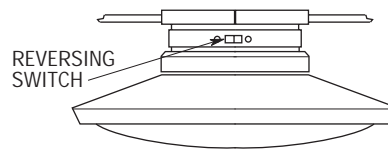

Figure 21
- 6. If airflow is desired in the opposite direction, turn the fan off and wait for the blades to stop turning. Then slide the reversing switch (Figure 21) and turn the fan on again. The blades will turn in the opposite direction and reverse the airflow.